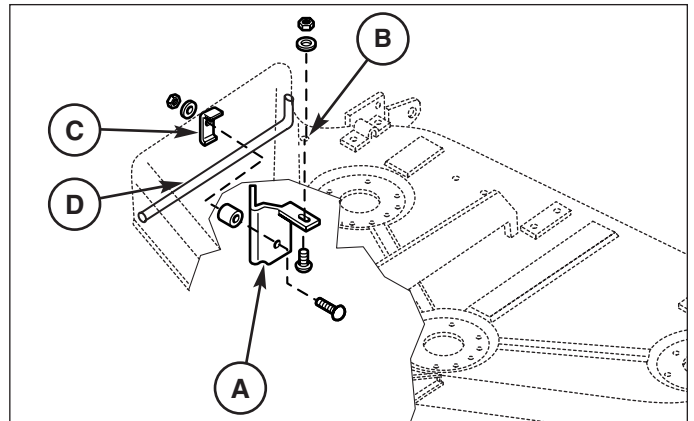

Figure 4. Install Discharge Baffle
1. Attach the baffle bracket (A, Figure 4) under the mower housing as shown, and insert the carriage bolt (from step 1) through the bracket & deck hole at (B).
2. Attach the "L" bracket (C) to the baffle (A), and over the stone guard (D). Attach with carriage bolt, spacer, lockwasher and nut as shown.